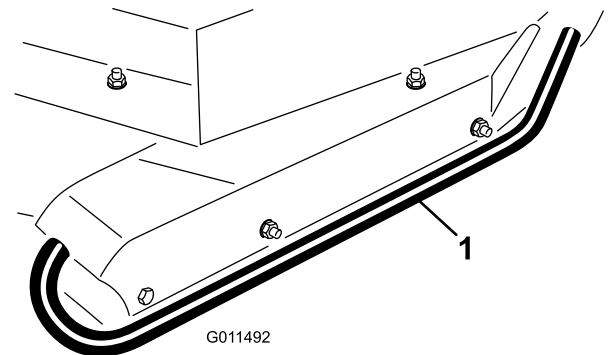

**Figure 23**
5. Rotate tension rod to raise or lower pivot arm until holes are aligned with selected height-of-cut bracket holes in the cutting unit frame (Figure 22 and Figure 23).